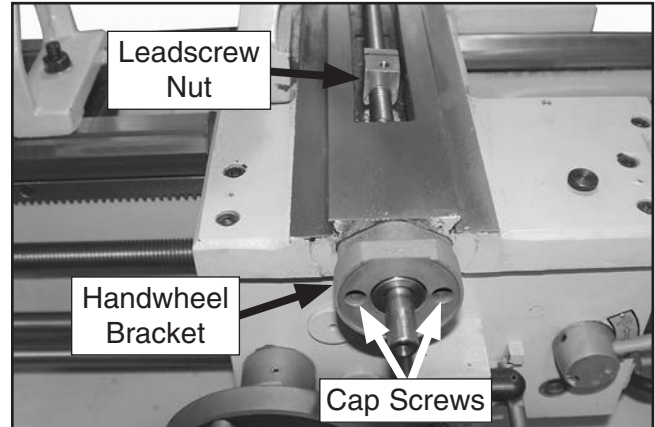

Figure 16. Taper attachment leadscrew assembly installed.
24. Slide the leadscrew assembly into the saddle with the threaded hole in the leadscrew nut facing up, as shown in **Figure 16**.